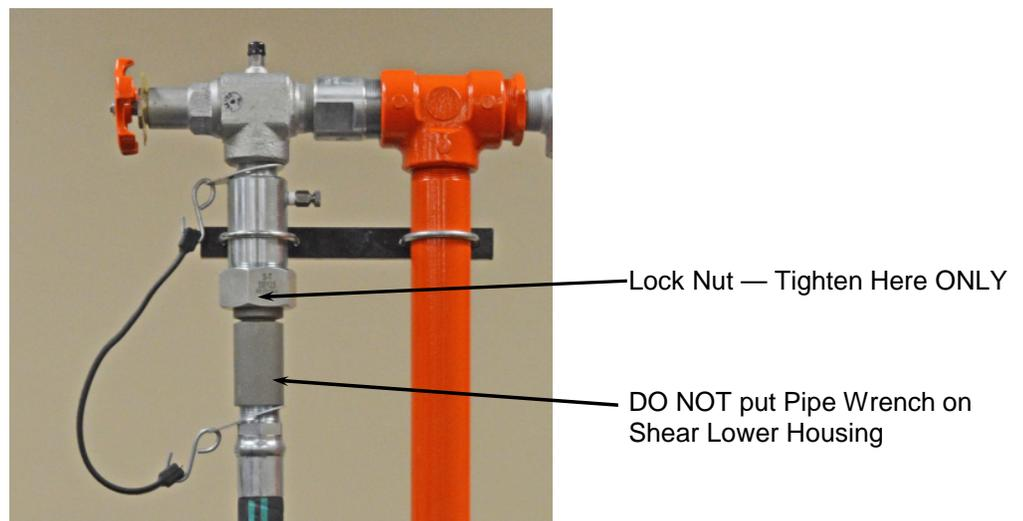

FIGURE 14
9. Then screw the Lock Nut (3) onto the Upper Housing (1) inlet body and tighten firmly until the Lock Nut stops and pinch the bungee hook closed to prevent it from slipping off as shown in Figure 14.
***NOTE: When tightening the Lock Nut DO NOT put any wrench on the Lower Housing (2) , Shear body. This could cause the unit to prematurely break.**